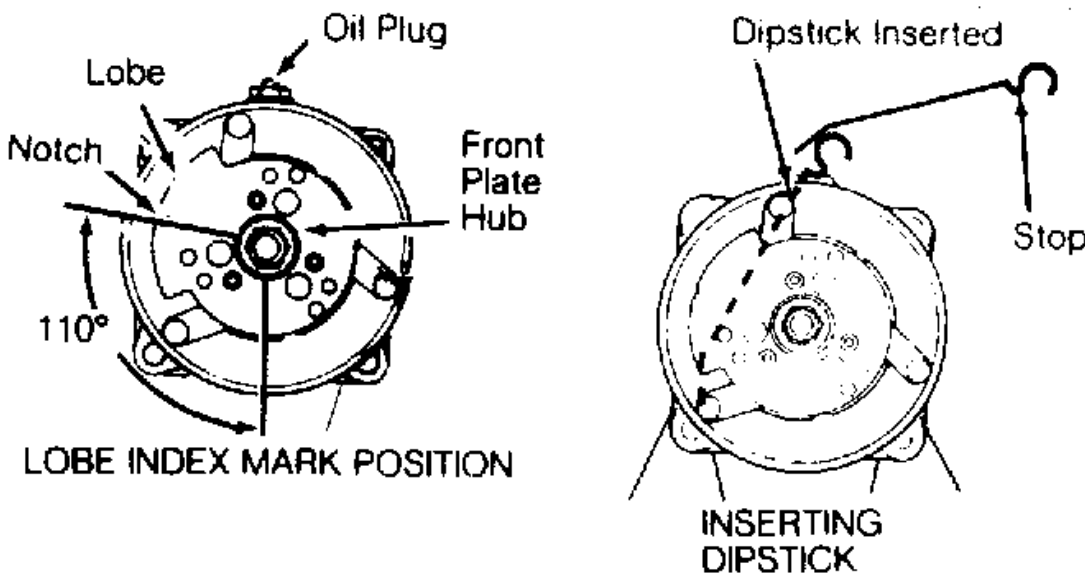

Fig. 1: Sanden 5-Cylinder Oil Level Checking
- 1. Discharge system. Remove compressor belt and loosen mounting bolts. Rotate compressor in brackets until filler plug is at top. Clean area around filler plug and remove plug slowly. Rotate front hub plate so notch in lobe is 110 degrees from the bottom. This rotates ball end of top piston to align with oil fill port and allows clearance for dipstick. See Fig. 1 .